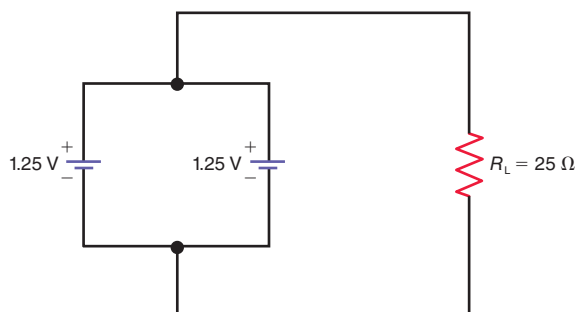

Figure 10-27
10.3 Repeat Prob. 10-1 for the circuit in Fig. 10-27.